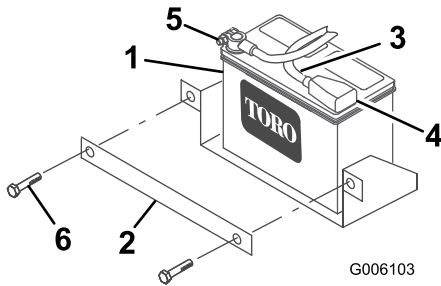

Figure 3
2. Remove the bolts, nuts, and clamp securing the battery (Figure 3).
9. Slide the battery into the machine and secure it with the clamp and fasteners removed previously (Figure 3).
10. Using the bolt and nut supplied with the battery, connect the positive (red) cable to the positive (+) battery post (Figure 3). Slide the rubber cover over the battery post.
11. Using the bolt and nut supplied with the battery, connect the negative (black) cable to the negative (-) battery post (Figure 3).